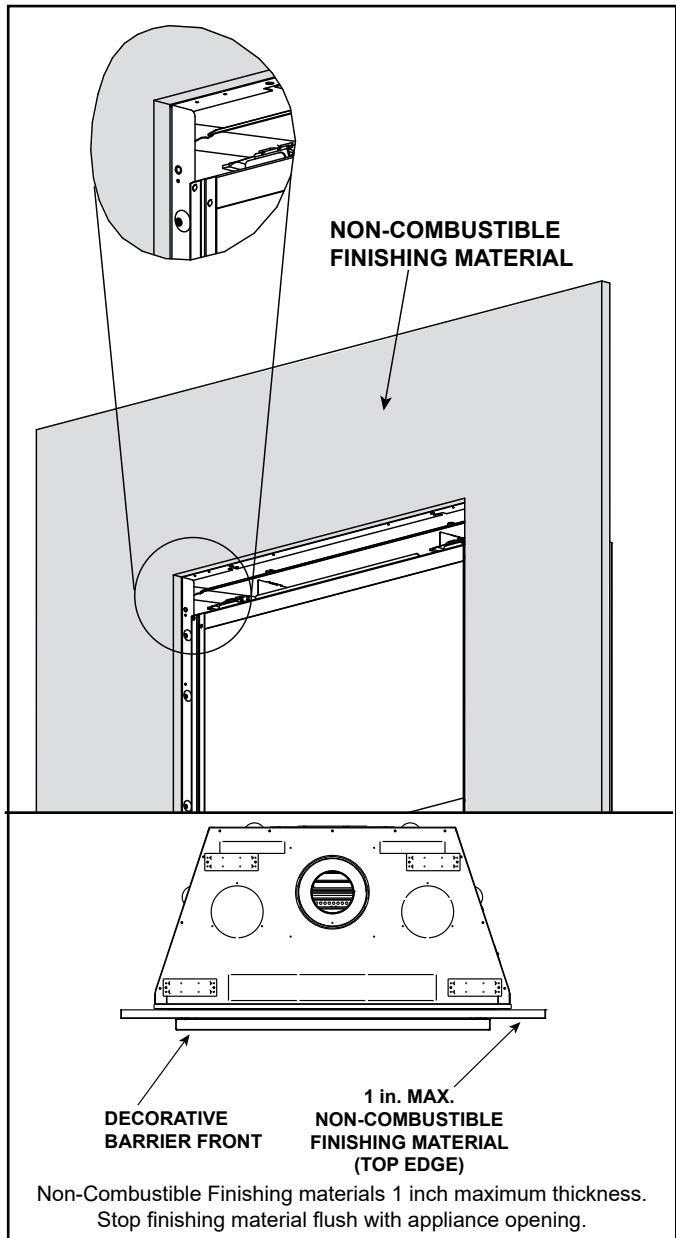

Figure 10.13 Non-Combustible Finishing Material 1 Inch Thick or Less - Overlap Fit Fronts
- Overlap fit as shown in Figure 10.13. Decorative barrier front is installed on top of finishing material.
- A. Finish material 1 inch thick or less: Use with Overlap fit fronts. Finishing strips not required. See Figure 10.13.